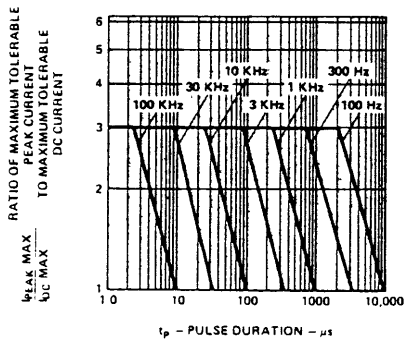

Figure 5. Maximum Tolerable Peak Current vs. Pulse Duration. ( $I_{DC\ MAX}$  as per MAX Ratings)
- See Figure 5 (Red), 10 (Yellow) or 15 (Green) to establish pulsed operating conditions.